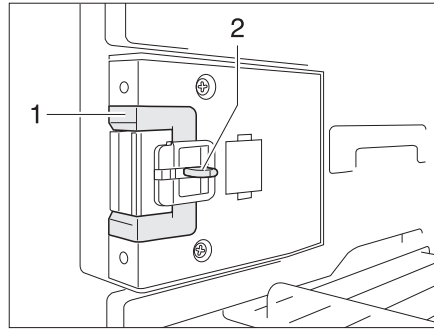
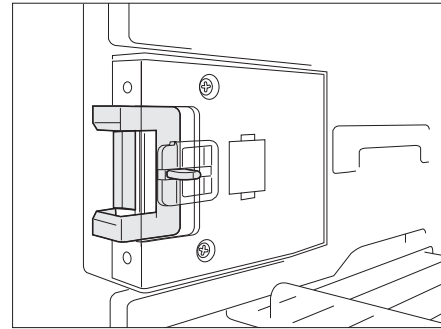

Fig. 330 Locking device in normal position
Fig. 331 Locking device in ventilation position
- Press down the unlocking device (Fig. 330,2).
- Push locking device (Fig. 330,1) forwards (Fig. 331).